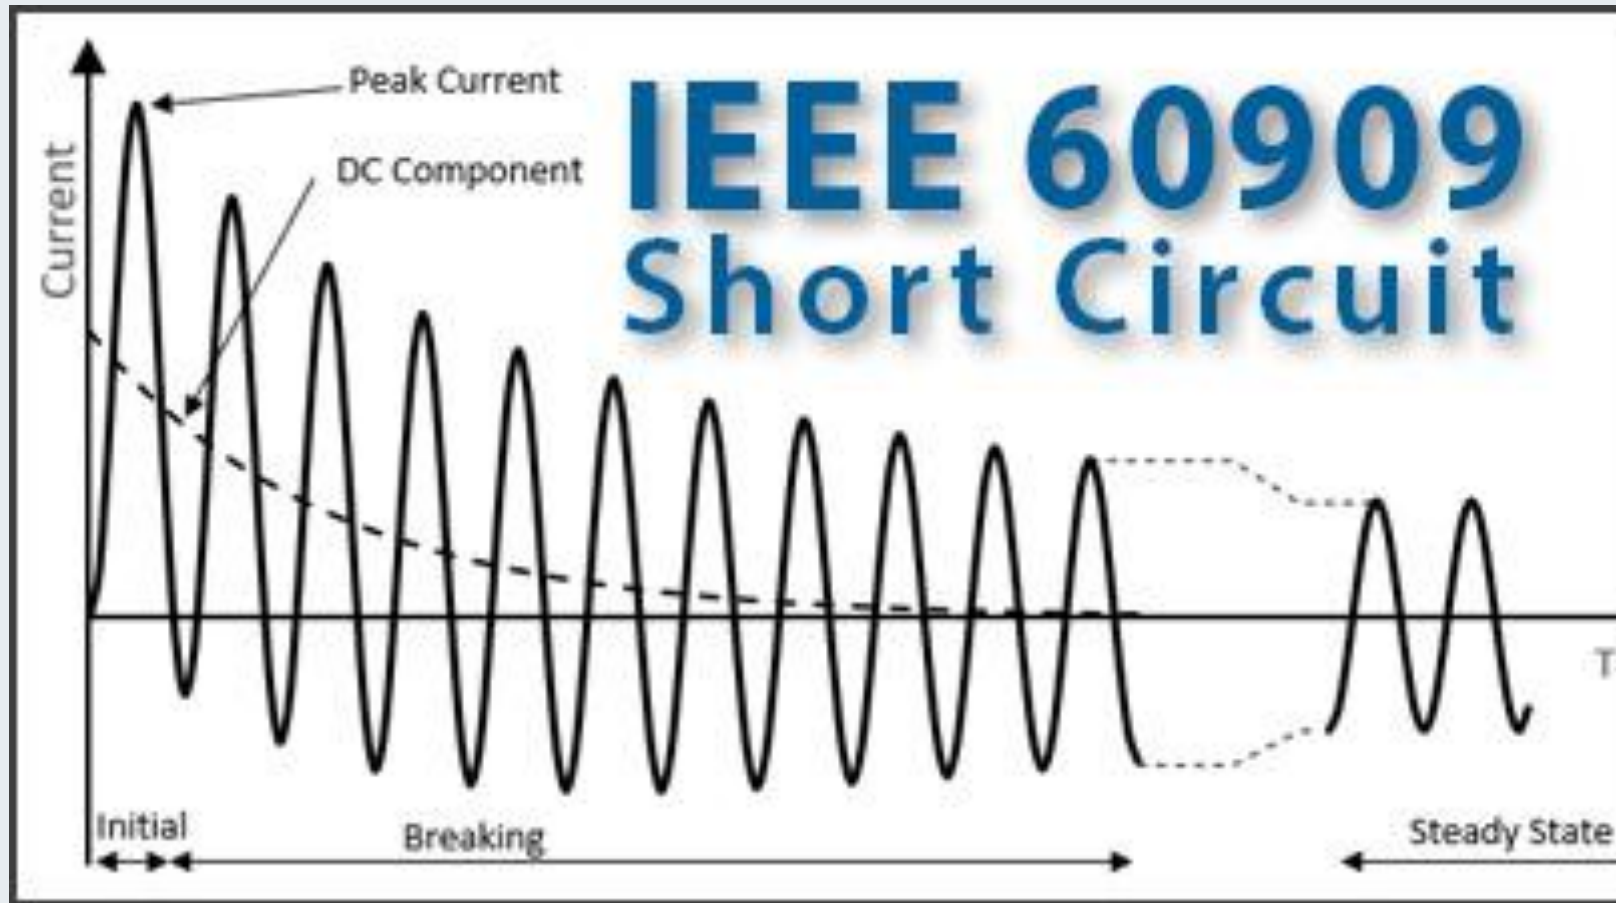

Figure 2. The three current wave form during fault condition.
- The three currents wave form are provided in Fig.2